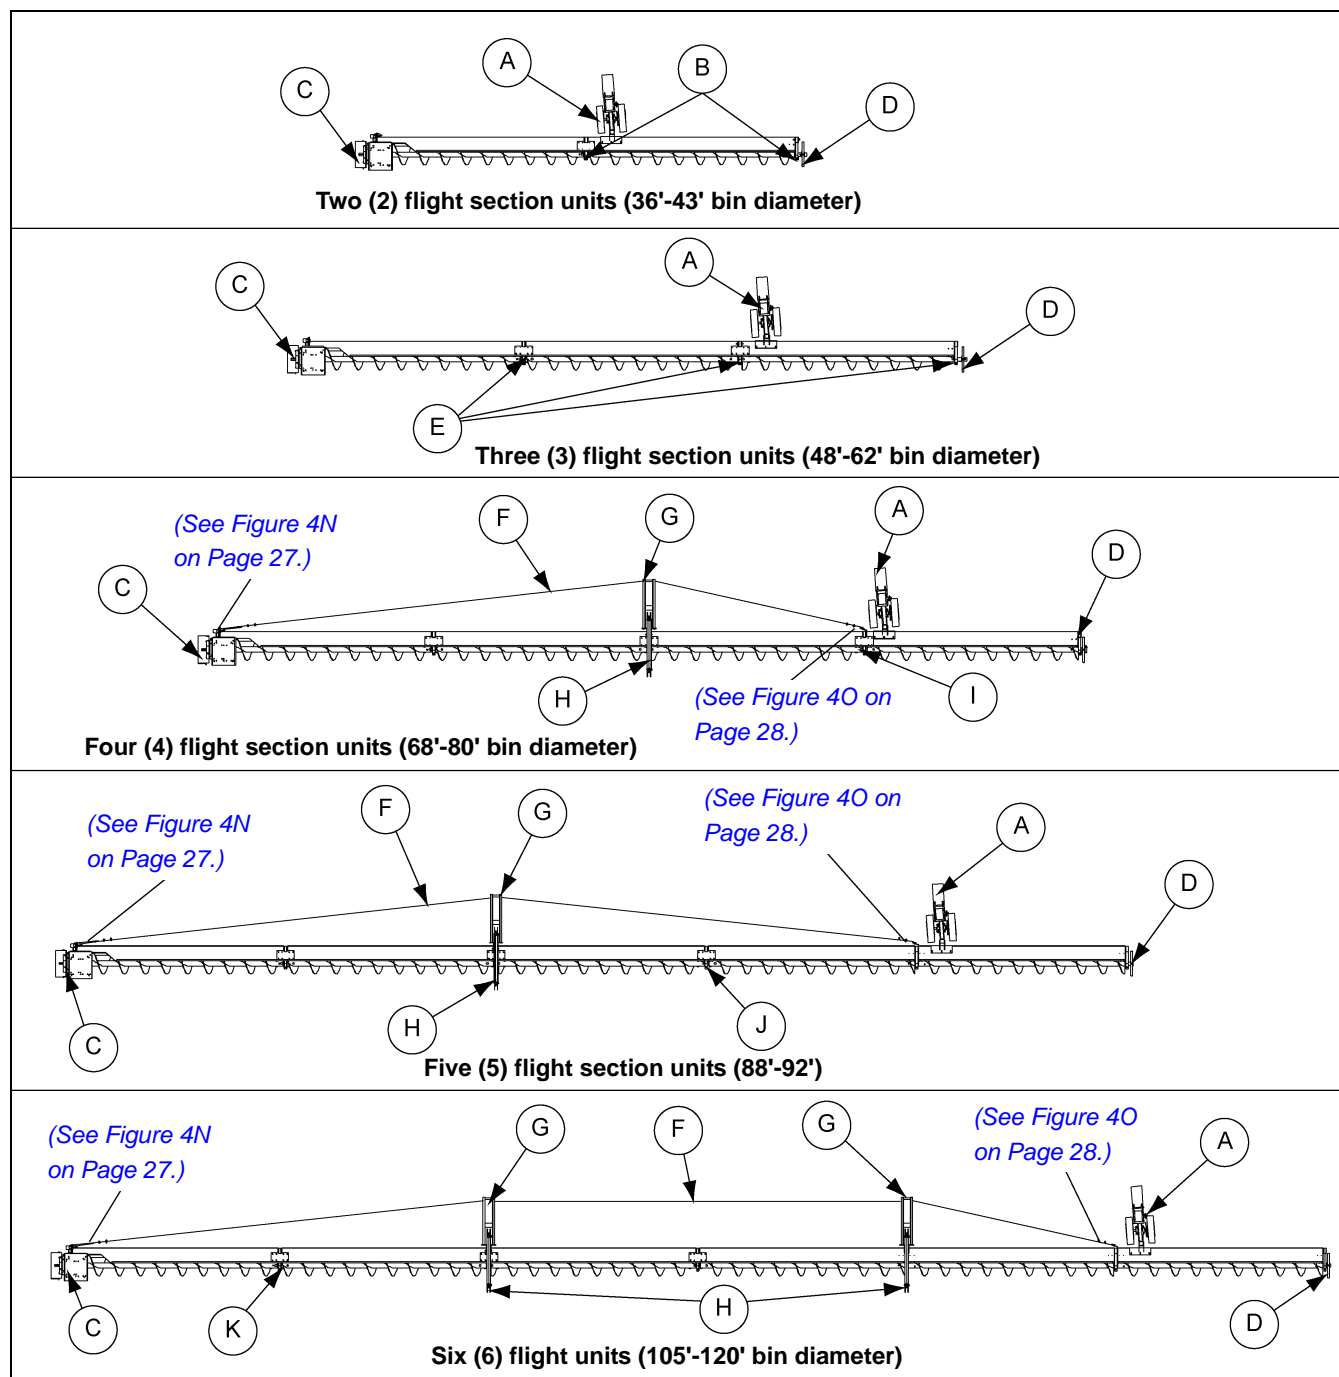
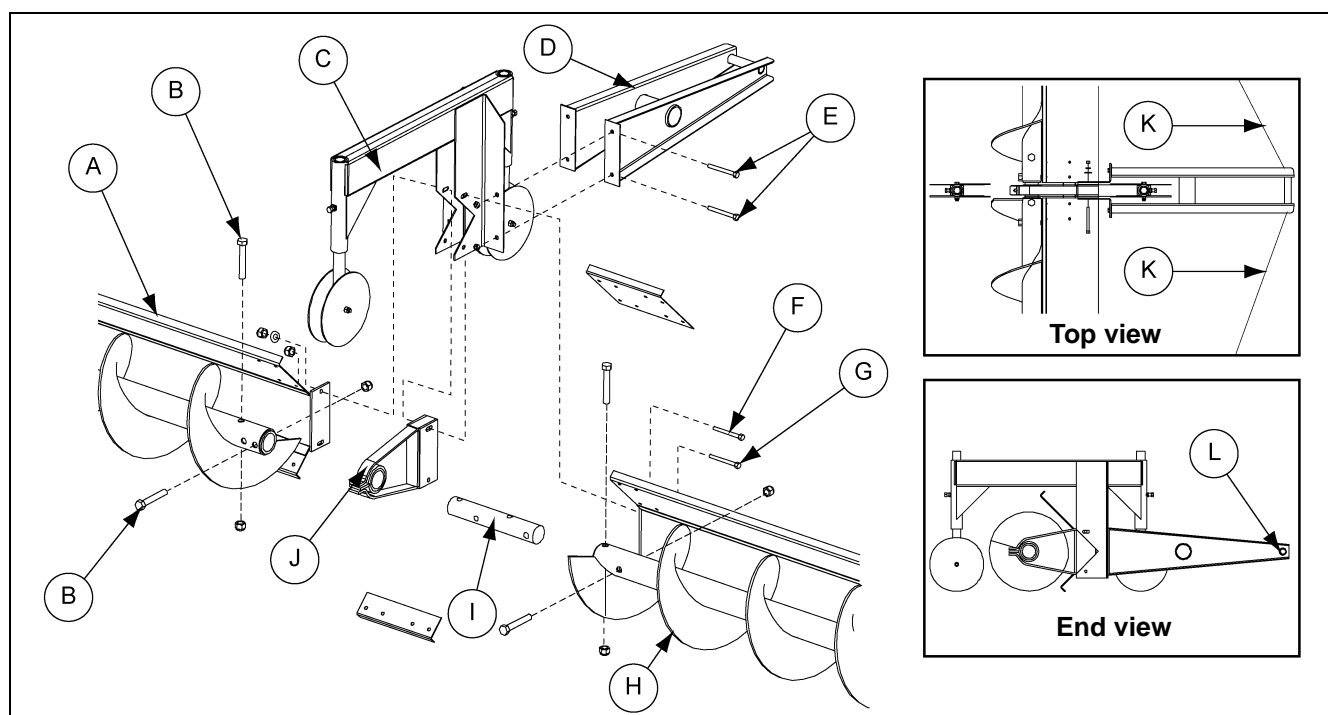

Figure 4F Sweep Flight Back Shield Layouts
Figure 4M Sweep Carrier Wheel and Truss Stand Detail
- (NOTE: Units that use four (4) or more sections of flight include a sweep carrier assembly that is used in conjunction with a truss stand. (See Figure 4F on Page 19 for locations.)) A cable truss is also provided for the sweep back shields on these units. The truss stand will fasten to the sweep carrier assemblies. Fasten the truss stand to the sweep carrier with 3/8" x 1" long hex head cap screws. (See Figure 4M on Page 25.) Use 3/8" x 3-1/2" hex head cap screws to connect the sweep carrier, sweep back shield and bearing stand together.
(For bins with four (4) or more sections.) (Refer to Figure 4M.)
1. Place sweep carrier wheel assembly (C) over bearing stand (J).
2. Connect carrier wheel (C) and bearing stand (J) to sweep back shields (A) using a 3/8" x 3-1/2" carriage bolt with flat washer, lock washer and lock nut and a 3/8" x 3-1/2" HHCS with lock nut (G).
3. Slide connecting stub (I) through bearing stand (J) and connect to flighting (H) using four (4) 5/8" x 4" HHCS with lock nuts (B).
4. Route the truss cable (H) through the small tube at the end of the truss stand(s). (See Figure 4M on Page 25.)